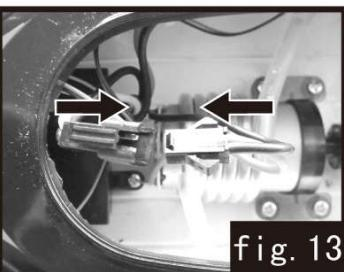

fig. 13
- 13.To reconnect the motor wire(see fig.13)